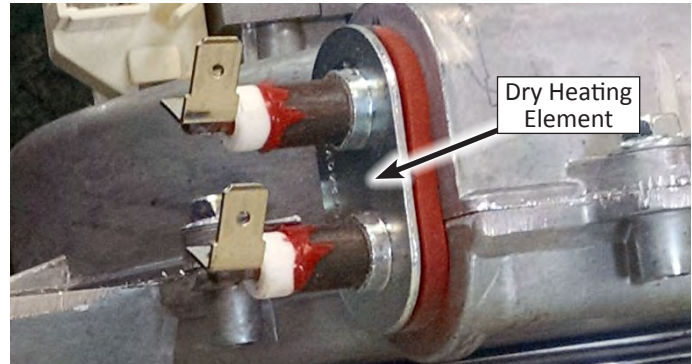

Figure 1 - Dry Heating Element
6. Disconnect the wire connectors from the dry heating element. See Figure 1.